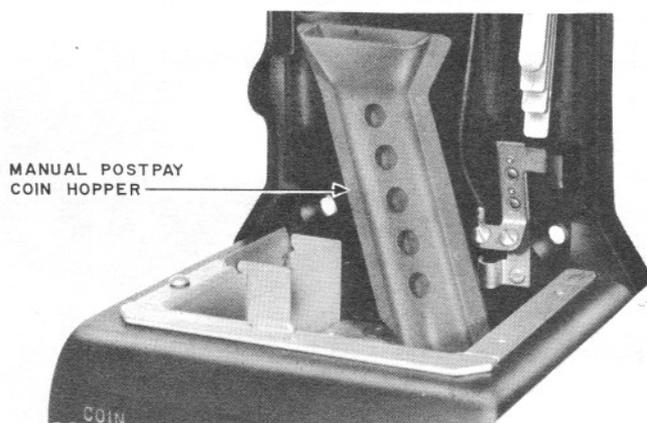
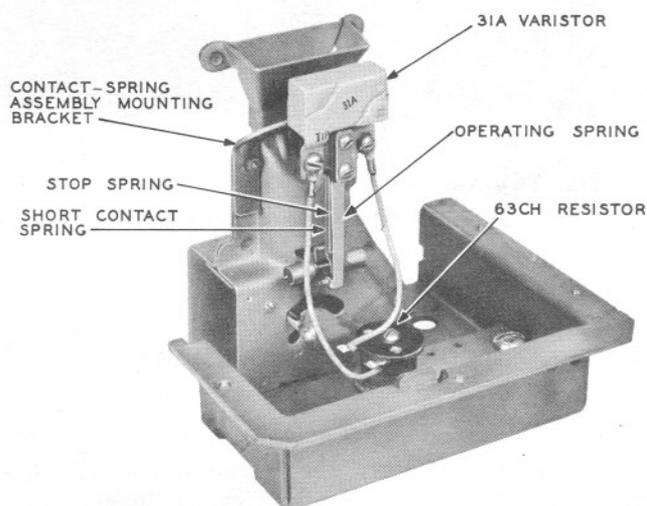
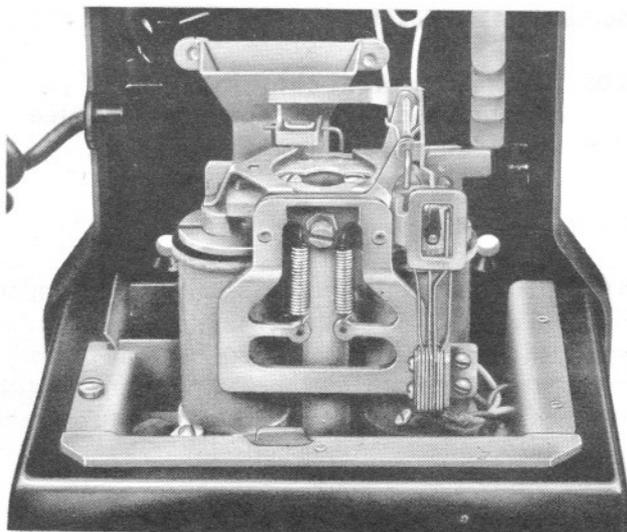
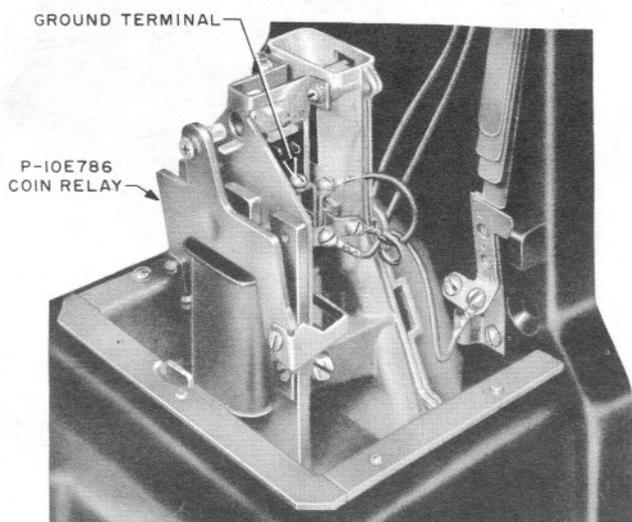

Fig. 12 — Manual Postpay
Fig. 13 — Dial Postpay (CDO)
Fig. 14 — Manual or Dial Prepay, 2-coil Coin Relay
Fig. 15 — Manual or Dial Prepay, Single-coil Slow-release Coin Relay
5.04 The mechanism-unit assembly is mounted on top of the lower housing. Four types are provided: manual postpay, Fig. 12; dial postpay, Fig. 13; manual or dial prepay equipped with 2-coil coin relay, Fig. 14; and manual or dial prepay equipped with single-coil slow-release relay, Fig. 15.